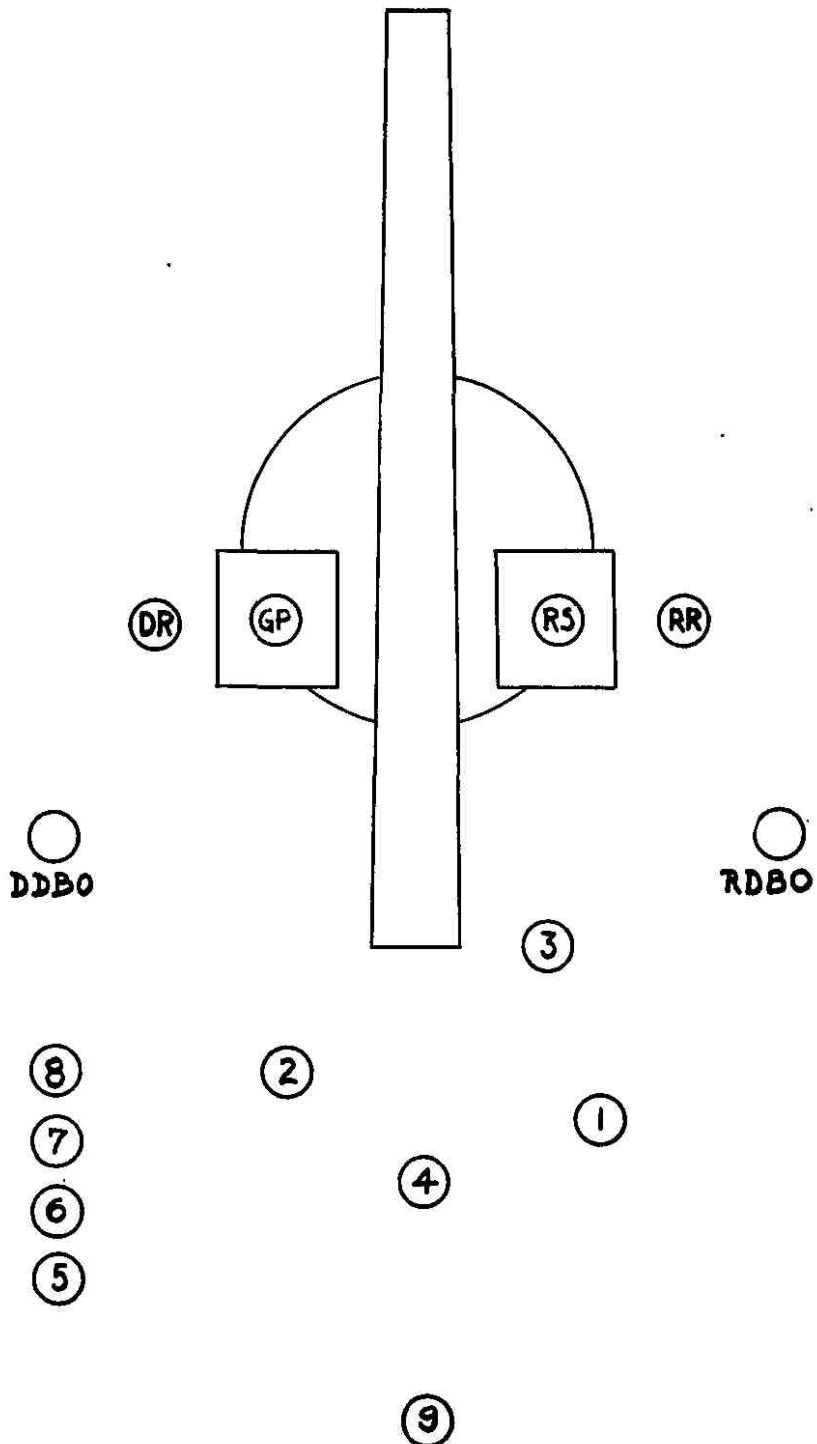

FIGURE 2.—Details, posts.
*b.* He commands: 1. DETAILS, 2. POSTS, when the section arrives in rear of the emplacement, and supervises the procuring of equipment. After all details have reached their posts (fig. 2), he commands: EXAMINE GUN. He then makes an inspection of the gun, carriage, and other matériel, paying special attention to the recoil cylinder, firing mechanism, safety devices, and the oiling of the various bearings. He receives the reports of the chief of ammunition and of the various details of the gun squad, and reports to the officer in charge of the emplacement, "Sir, No. ----- in order," or reports defects which he is unable to remedy without delay.